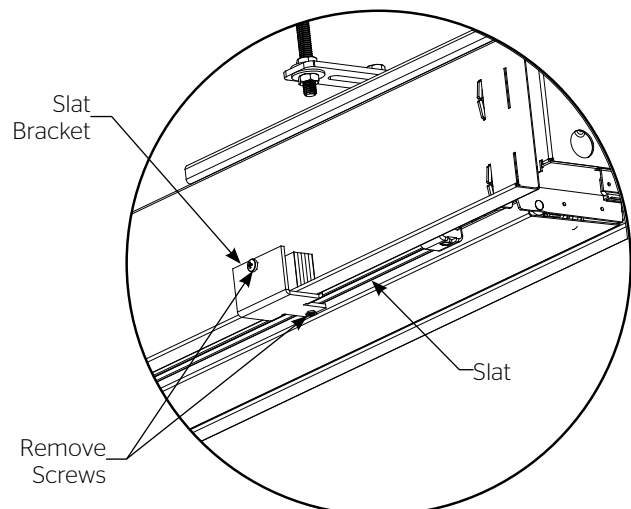

Figure 2
4. If screen surface is tab-tensioned, use a #2 Phillips screwdriver to remove white shipping brackets attached to slat and screen (Figure 2).